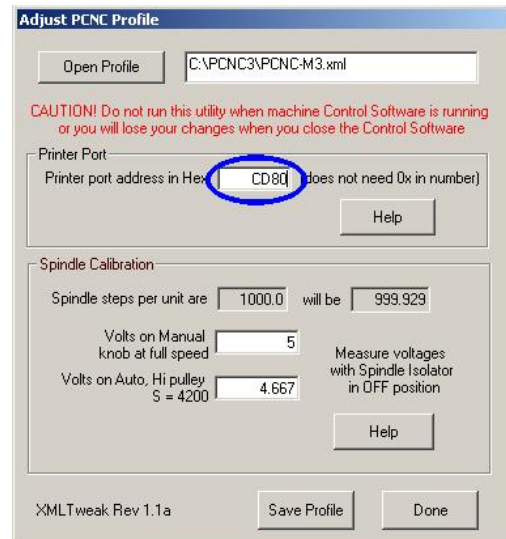

Figure 9.15 – Entering port address
9. Finally, run the XMLTweak program and open the PCNC3 profile (details in section 9.5.6 above) and enter this number under the “Printer Port” heading (figure 9.15).